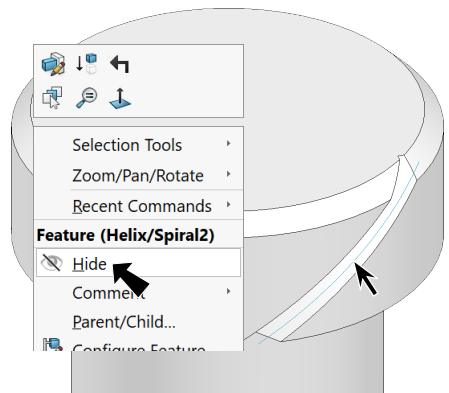

Fig. 75
Step 1. **Hide Helix/Spiral2** . To hide, **right click Helix** in the graphics area and **Hide**  on the context toolbar, **Fig. 75**.